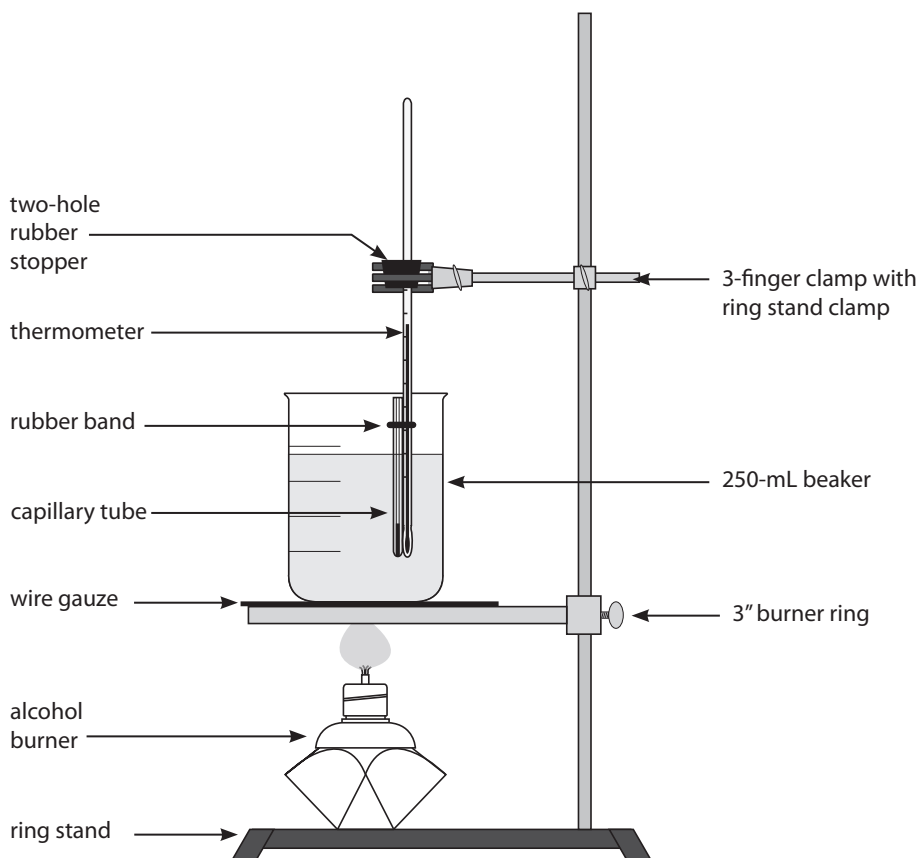
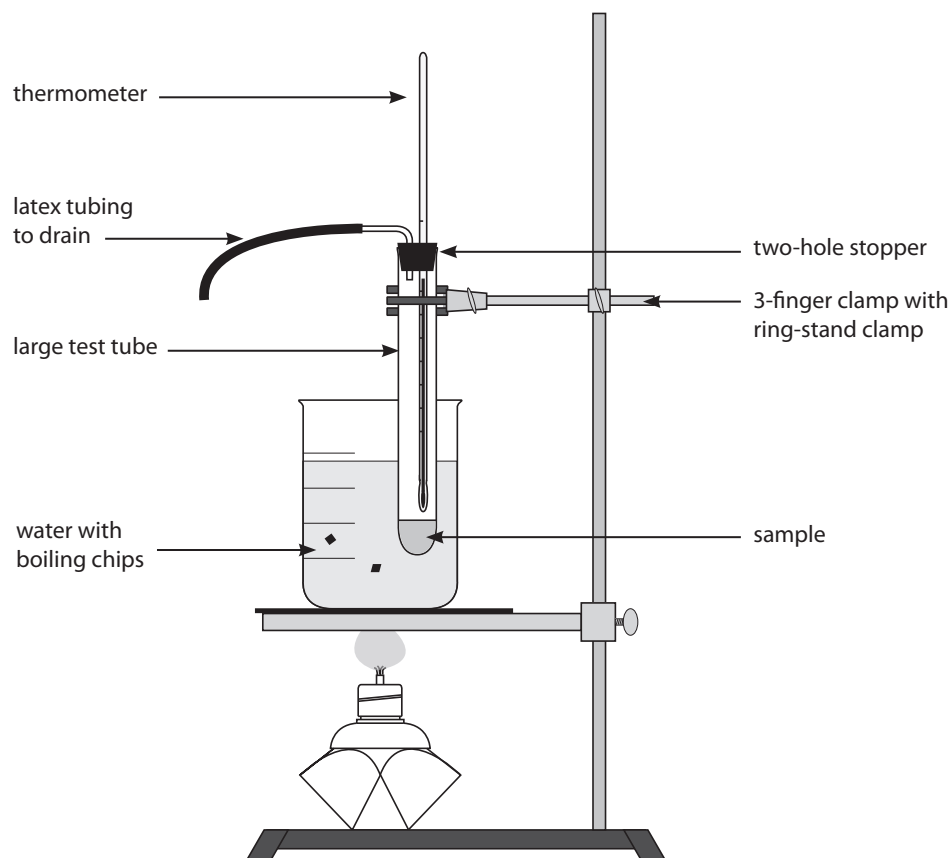

Figure 1.1. Melting point apparatus.
Figure 1.2. Boiling point apparatus.
Familiarize yourself with the melting point apparatus shown in Figure 1.1 before proceeding. Prepare a data table in your lab journal for recording melting point data. You must record the melting point range determined in each of two trials for the two solid substances.
4. Fit the thermometer into the rubber stopper and clamp it to the ring stand. While adjusting the thermometer, compare Figure 1.1 with Figure 1.2 and position the thermometer so it fits properly into the large test tube for Part 4.¹
5. Secure the capillary tube to the thermometer using a rubber band as shown in Figure 1.1.
Familiarize yourself with the boiling point apparatus shown in Figure 1.2 before proceeding. Prepare a data table in your lab journal for recording boiling point data. You must record the boiling point determined in each of two trials for the two liquid substances.